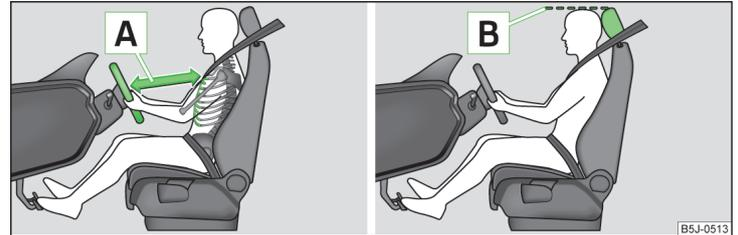

Fig. 1 The correct distance of the driver to the steering wheel/correctly adjusted head restraint
- ✓ Adjust the steering wheel so that the distance **A** between the steering wheel and your chest is at least 25 cm » Fig. 1. Adjust the steering wheel » page 10, Adjusting the steering wheel position.
- ✓ Adjust the head restraint such that the top edge of the head restraint is at the same level as the upper part of your head **B** » Fig. 1 on page 9 » page 9.
- ✓ Adjust the head restraint such that the top edge of the head restraint is at the same level as the upper part of the head  » Fig. 1 on page 9 » page 9.